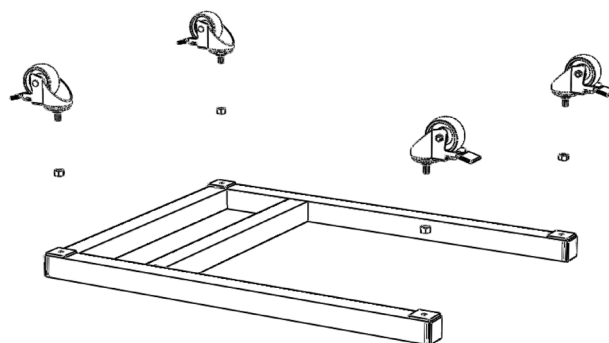

FIG. 4.1
1. Attach (4) locking swivel casters to the bottom of the base plate with the 1/2" nuts. (Fig. 4.1)